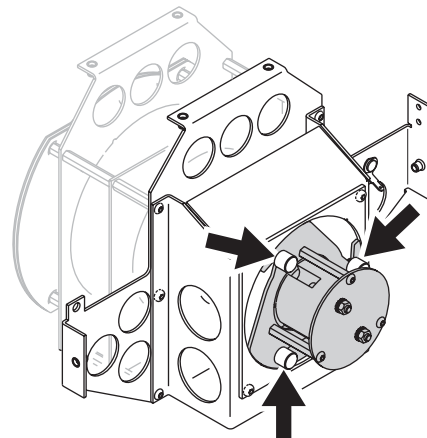

Figure 21: Lampholder screws
6. See Figure 21. The lampholder is at the rear of the effects modules. Loosen, but do not remove, the three Allen screws (arrowed) holding the lampholder. To release the lampholder, push it in slightly towards the modules and rotate it so that the holes in the lampholder plate clear the Allen screws, then gently pull the lampholder clear. Avoid touching or knocking the lamp against other components.